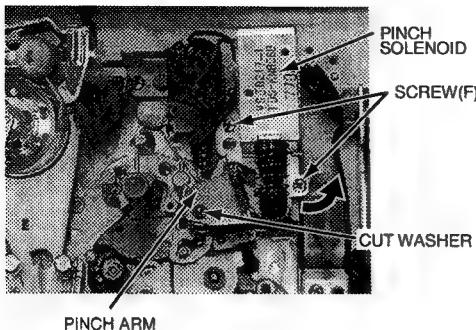

Fig. M-3
- Fig. M-3 Unscrew 2 screws (F) and remove Cut Washer.